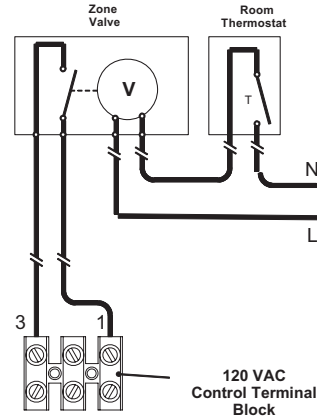

Figure 12.11
- Connect the micro switch of the zone valve to terminals 1 and 3 as shown in Figure 12.11
- Connect the zone valve switch to the room thermostat as shown in Figure 12.11